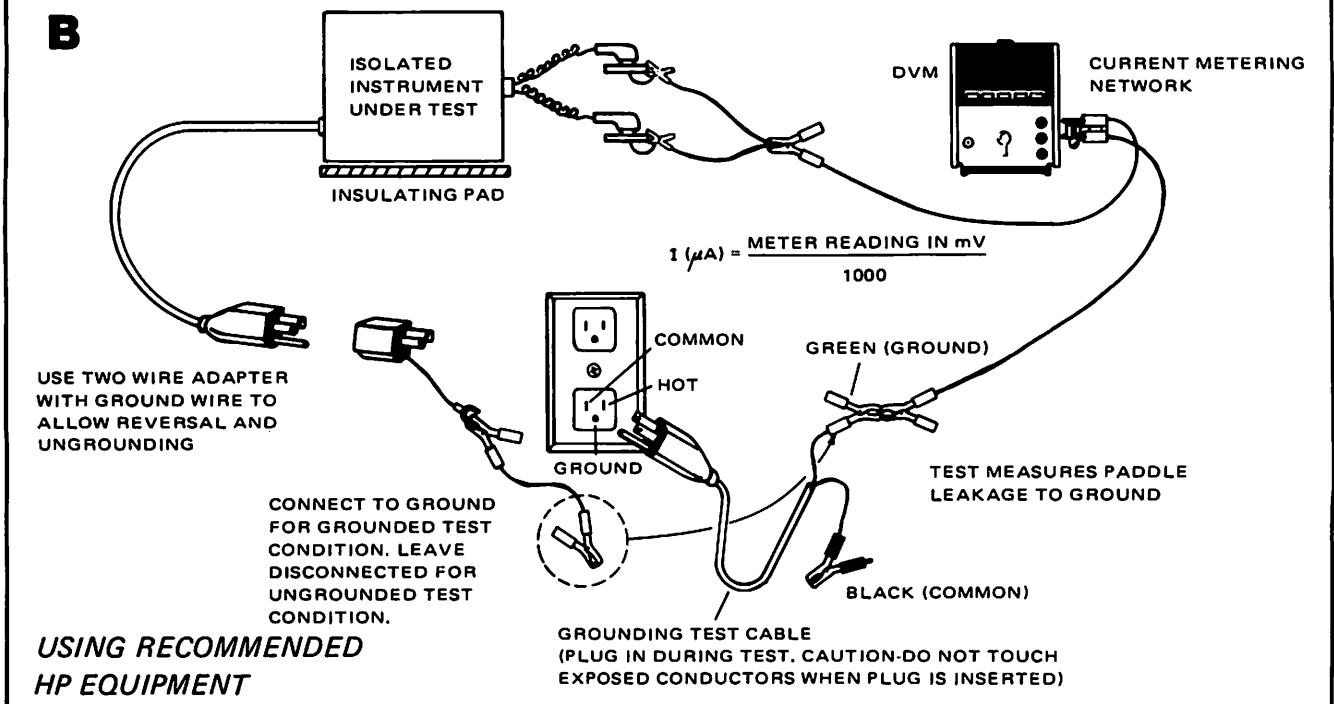

Figure 3-4. Paddle Leakage Current to Ground.
1. Connect the test equipment as shown in Figure 3-4.